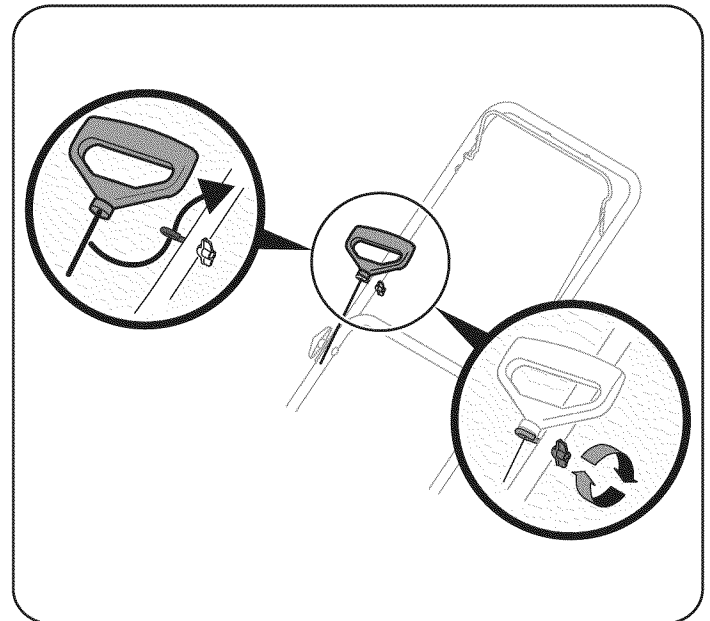

Figure 3
3. Loosely attach the eyebolt and plastic wing nut (found in the manual bag) to the handle. See Figure 3. Pull the recoil starter handle out and thread the rope through the eye bolt. Tighten the wing nut to secure the eyebolt in place.